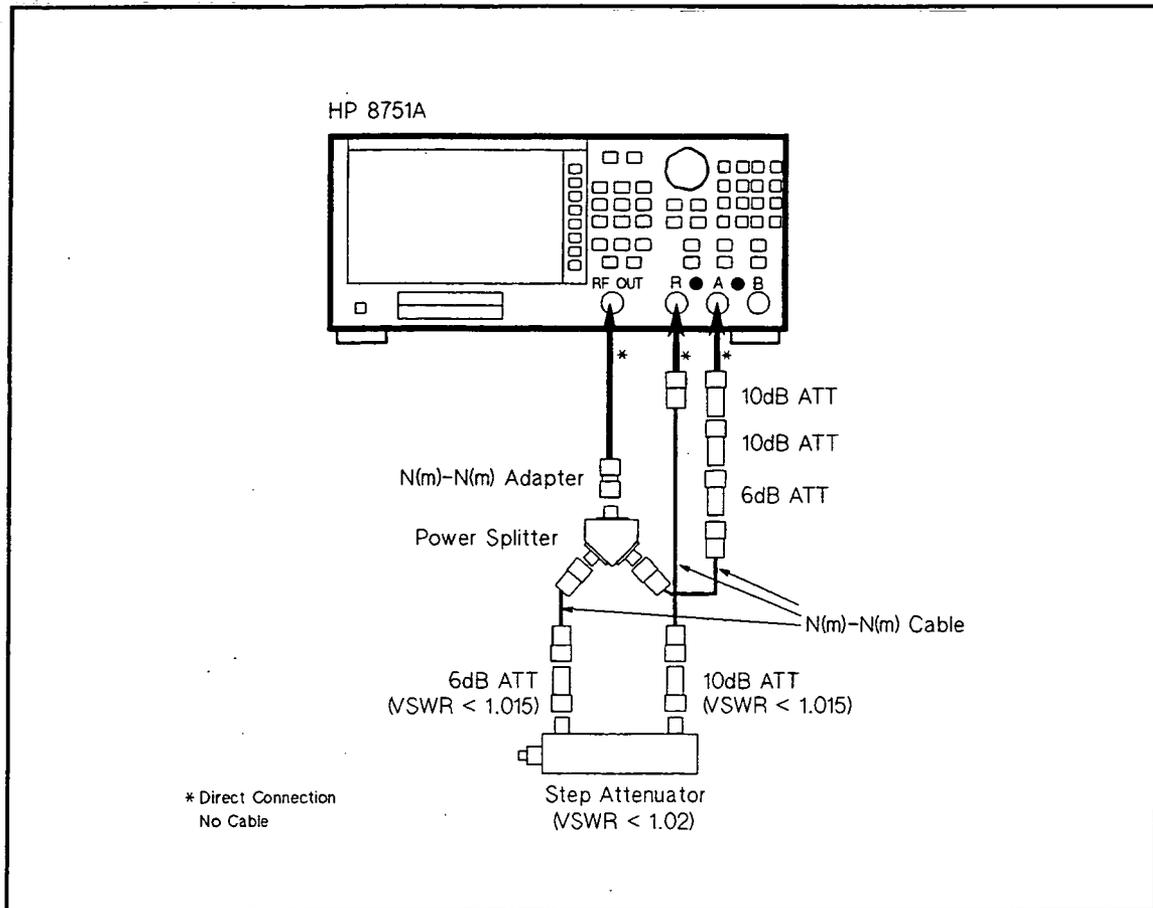

Figure 2-21. Magnitude Ratio/Phase Dynamic Accuracy Test Setup 1
- a. Connect the test equipment as shown in Figure 2-21.